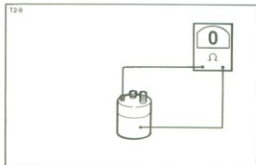

Figure 5-22. Testing Solenoid Hold-In Coil
5. See Figure 5-22. Check the hold-in coil for continuity by touching one ohmmeter probe to the solenoid case and the other probe to the smaller diameter terminal. Again there should be continuity less than one ohm approximately .6 ohm resistance.